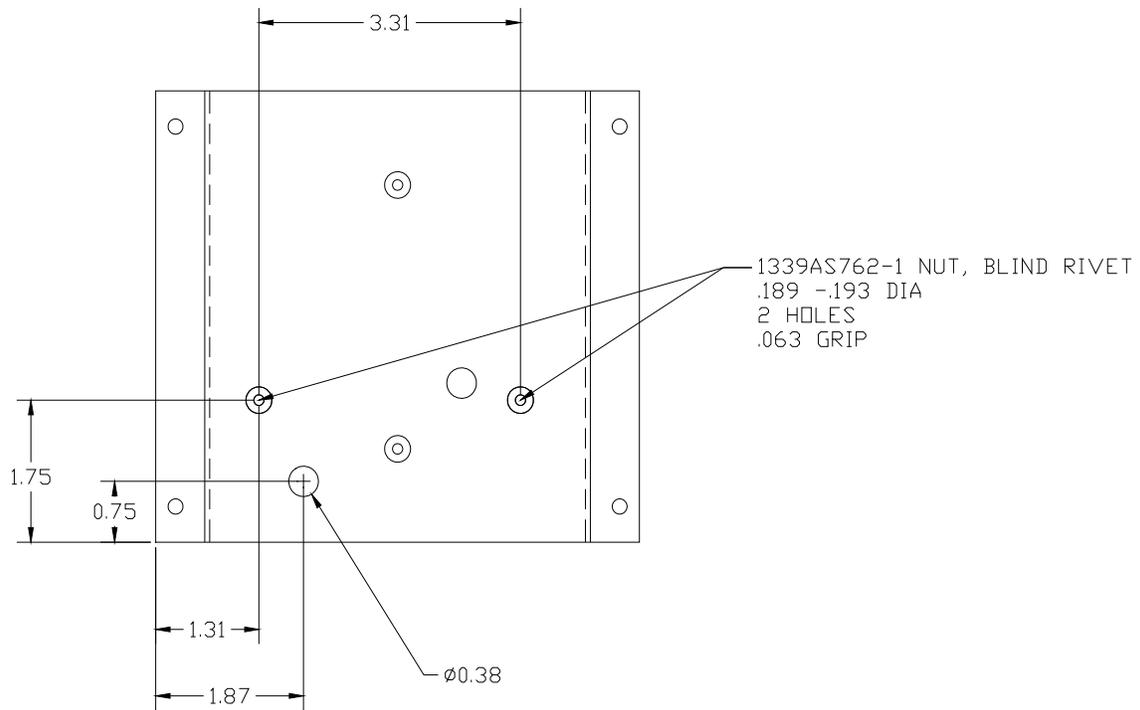
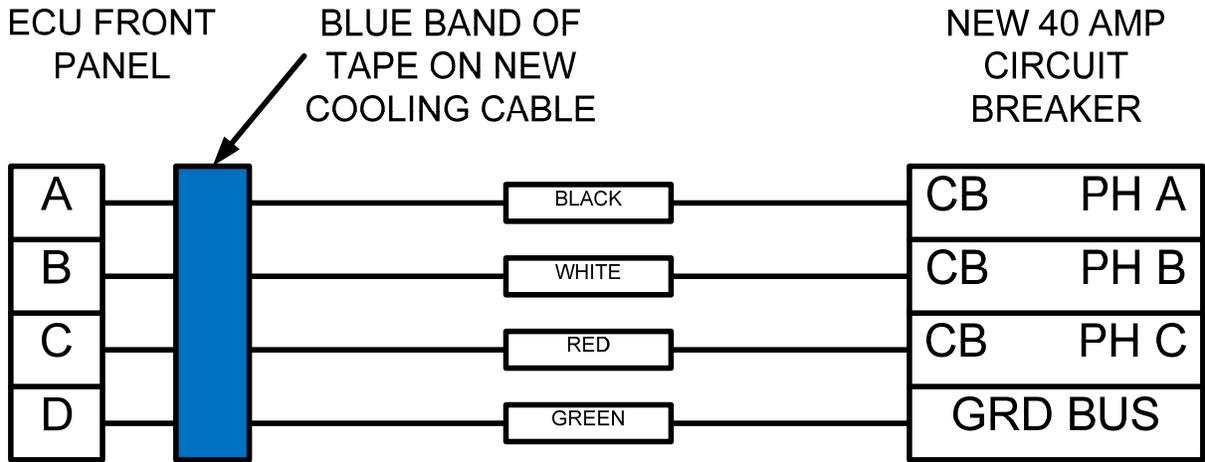
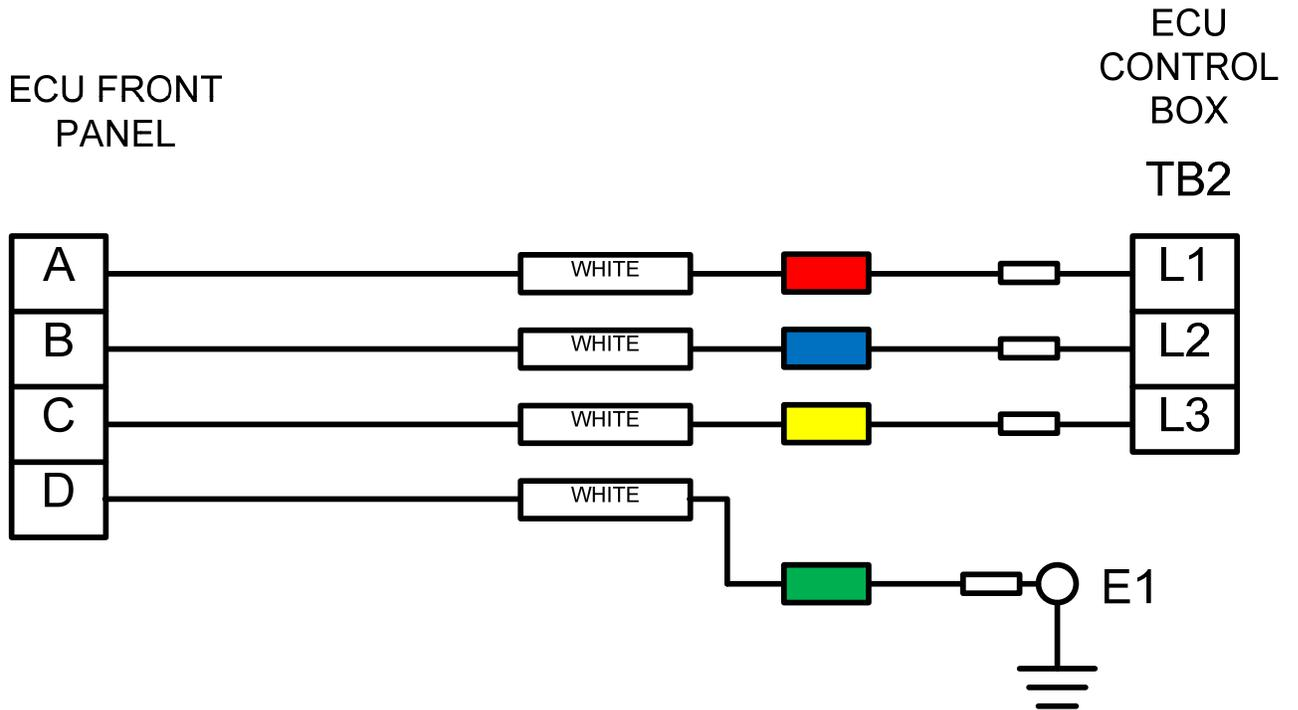
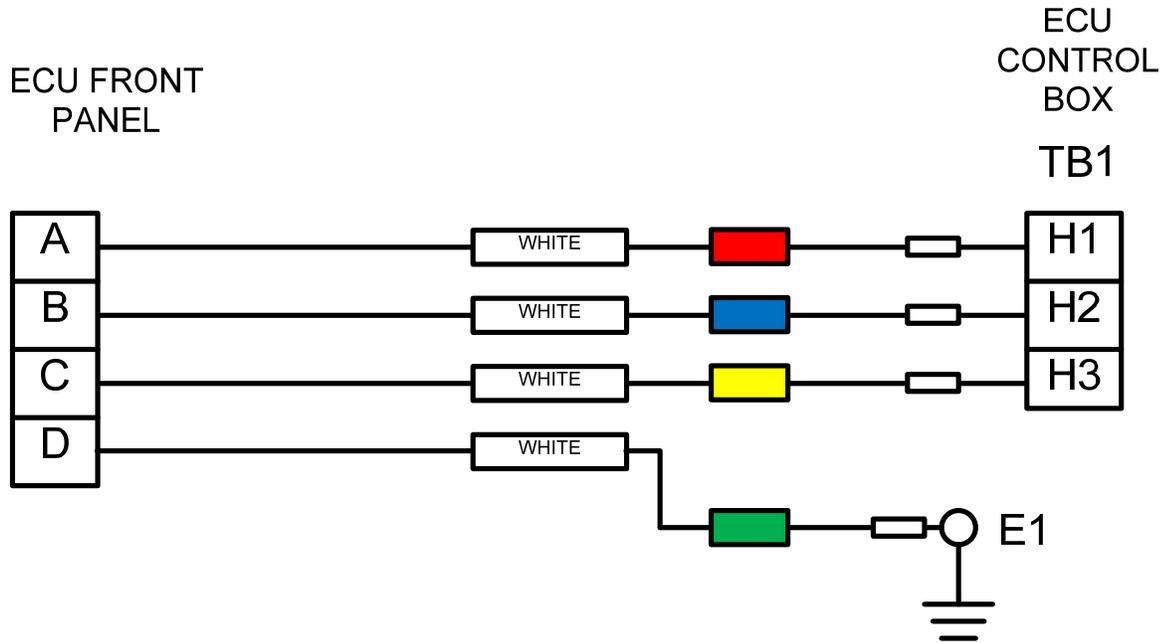

Figure 1 – Thermostat Bracket Modifications
Figure 2
Figure 3
Figure 4
- (2) Remove and discard existing 30 amp cooling circuit cable, PN 1339AS867-1 (Reference (c), WP 019 00 Figure 2 Index 21), IAW Reference (c), WP019 00 para. 10. Only remove the 30 amp cooling cable, leaving the existing 40 amp heating cable in place. Remove any cable ties required in order to remove this cable taking care not to damage any of the cables/wires.
- (3) Remove existing cooling circuit 30 amp circuit breaker (Reference (c), WP 022 00 figure 2 index 9 or figure 3 index 5) IAW Reference (c), WP 022 00 para. 6 and discard circuit breaker.
- (4) Install new cooling circuit 40 amp circuit breaker, PN QOB340, in the location that the 30 amp circuit breaker was removed from in step (3) above IAW Reference (c) WP 022 00 para. 10.
- (5) Check size of cable clamp.
- (6) Remove cable clamp (REFERENCE (c), WP 006 Figure 4 Index 7, WP 007 00 Figure 4 Index 7, WP 009 00 Figure 3 Index 7, WP 010 00 Figure 3 Index 7 or WP 01100 Figure 3 Index 7 as applicable) from circuit breaker enclosure.
- (7) Using 3/4" trade size (1.115 actual size) knockout punch make hole in the circuit breaker enclosure centered in the hole from which the cable clamp was removed from in step (6) above.
- (8) Install new clamp, PN 1339AS857-2 (3033M), in 3/4" trade size (1.115 actual size) hole in the circuit breaker Enclosure.
- (9) Prior to installation of new 40 amp cooling circuit cable, using a permanent fine point marker (Sharpie), mark the circuit number on the wire marker sleeve of the 4 individual conductors after "CB".
- (10) Install new 40 amp ECU cooling circuit cable PN 1339AS1232-1 IAW Reference (c), WP 019 00 para. 37 using the 40 amp cooling circuit cable PN 1339AS1232-1 instead of the 30 amp cooling cable 1339AS867-1 IAW the schematic in Enclosure (1), Figure 2. The cable shall be routed through the raceway the same as the cable which was removed in step (2). Install new cable ties in any locations cable ties were removed in step (2).
- (11) On the previously installed R-22 ECU PN 1559AS100-1 remove existing cooling cable PN 1339AS883-1 (Reference (c), WP 019 00 Figure 2 Index 10) IAW Reference (c), WP 019 00 para. 9.
- (12) Crimp terminal lugs PN MS25036-115 on the three conductors on the new 40 amp cooling cable PN 1339AS1231-1 that don't already have a terminal lug.
- (13) Install the new 40 amp cooling cable PN 1339AS1231-1 IAW Reference (c), WP 019 00 para. 36 step f, i and j substituting the new 40 amp cooling cable PN 1339AS1231-1 for the removed 30 amp cooling circuit cable (Reference (c), WP 019 00 Figure 2 Index 10)
- (14) Remove existing thermostat and thermostat bracket IAW Reference (c), WP 019 00 para. 8.
- (15) While thermostat bracket is removed install two new rivnuts, PN 1339AS762-1 (S6-75) IAW Enclosure (1), Figure 1 using a C845-632 blind rivet installation tool.
- (16) Drill new thermostat cable clearance hole in the thermostat bracket IAW Enclosure (1), Figure 1
- (17) Reinstall modified thermostat bracket and thermostat IAW Reference (c), WP 019 00 para. 34 step c.
- (2) Remove and discard existing 30 amp cooling circuit cable, PN 1339AS867-3 (Reference (c), WP 019 00 Figure 2 Index 21), IAW Reference (c), WP019 00 para. 10, with the following changes: instead of the cable being routed through a hole in the circuit breaker enclosure the cable will be routed in a raceway along the top of the side wall. Pry the raceway cover to remove and gain access to the cooling cable. Only remove the 30 amp cooling cable, leaving the existing 40 amp heating cable in place. Remove any cable ties required in order to remove this cable, taking care not to damage any of the cables/wires.
- (3) Remove existing cooling circuit 30 amp circuit breaker (Reference (c), WP 022 00 Figure 2 Index 9 or Figure 3 Index 5) IAW Reference (c), WP 022 00 para. 6 and discard circuit breaker.
- (4) Install new cooling circuit 40 amp circuit breaker, PN QOB340, in the location that the 30 amp circuit breaker was removed from in step (3) above IAW Reference (c), WP 022 00 para. 10.
- (6) Remove cable clamp that clamped the cable removed in step (2) in the raceway.
- (7) Using ¾" trade size (1.115 actual size) knockout punch make hole in the raceway centered in the hole from which the cable clamp was removed from in step (6) above.
- (8) Install new clamp, PN 1339AS857-2 (3033M), in ¾" trade size (1.115 actual size) hole in the raceway.
- (10) Install new 40 amp ECU cooling circuit cable PN 1339AS1232-3 IAW Reference (c), WP 019 00 para. 37 using the 40 amp cooling circuit cable PN 1339AS1232-3 instead of the 30 amp cooling cable 1339AS867-3 IAW the schematic in Enclosure (1), Figure 2. The cable shall be routed through the raceway the same as the cable which was removed in step (2). Install new cable ties in any locations cable ties were removed in step (2).
- (11) Snap the raceway covers back in place.
- (12) On the previously installed R-22 ECU PN 1559AS100-1 remove existing cooling cable PN 1339AS883-1 (Reference (c), WP 019 00 Figure 2 Index 10) IAW Reference (c), WP 019 00 para. 9.
- (13) Crimp terminal lugs PN MS25036-115 on the three conductors on the new 40 amp cooling cable PN 1339AS1231-1 that don't already have a terminal lug.
- (14) Install the new 40 amp cooling cable PN 1339AS1231-1 IAW Reference (c), WP 019 00 para. 36 step f , i and j substituting the new 40 amp cooling cable PN 1339AS1231-1 for the removed 30 amp cooling circuit cable (Reference (c), WP 019 00 Figure 2 Index 10).
- (15) Remove existing thermostat and thermostat bracket IAW Reference (c), WP 019 00 para. 8.
- (16) While thermostat bracket is removed install two new rivnuts, PN 1339AS762-1 (S6-75) IAW Enclosure (1), Figure 1 using a C845-632 blind rivet installation tool.
- (17) Drill new thermostat cable clearance hole in the thermostat bracket IAW Enclosure (1), Figure 1.